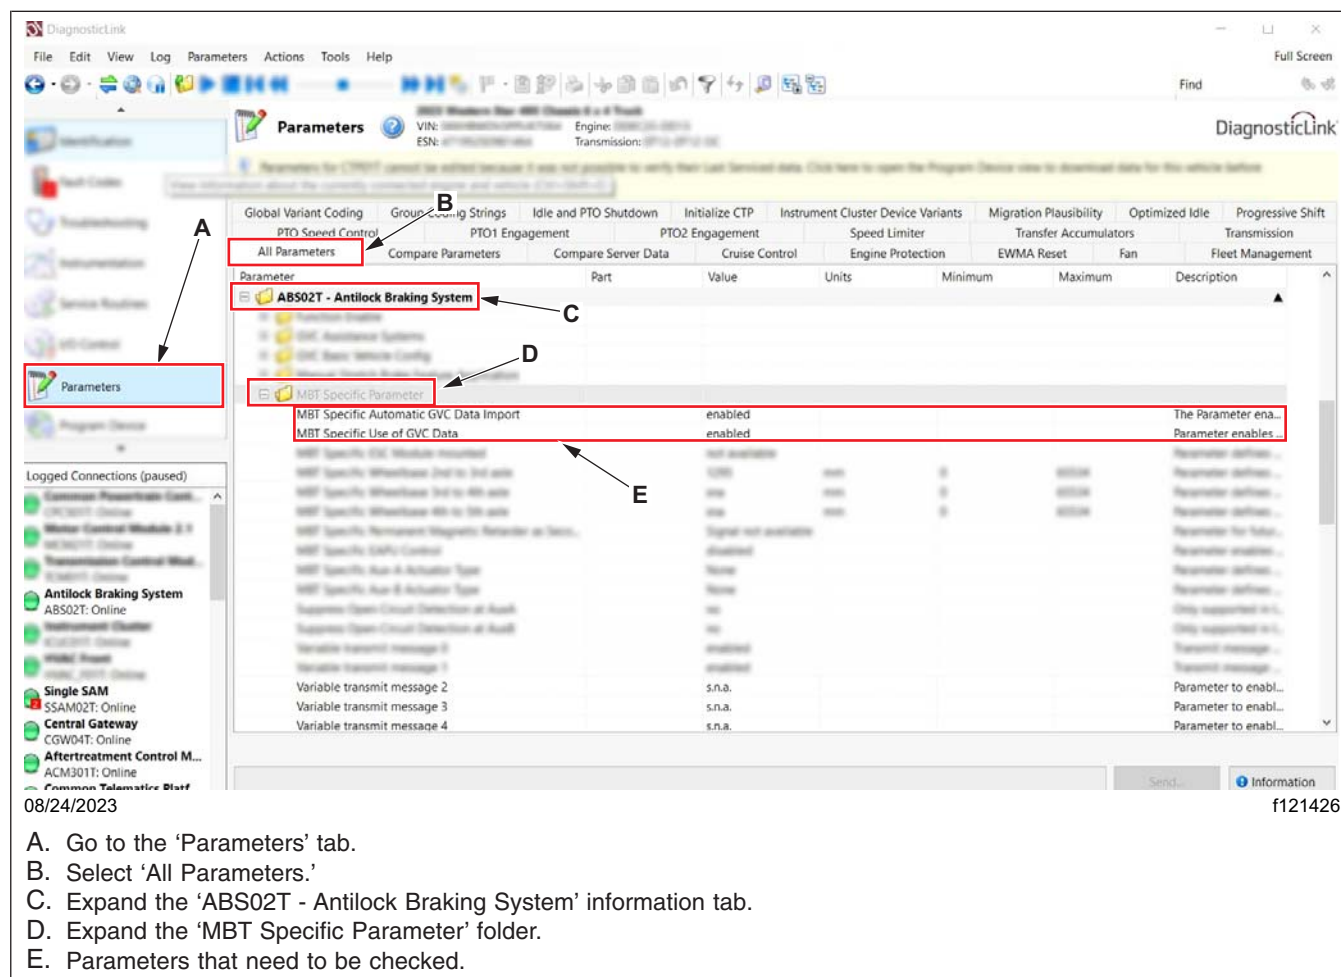

Fig. 16, Verifying the Parameter Update (Population A Only)
- 19.2 Go to the 'Parameters' tab, then select the 'All Parameters' tab. Expand the 'ABS02T – Antilock Braking System' parameter folder. See Fig. 16.
19.3 Under the 'ABS02T – Antilock Braking System' folder, find and expand the 'MBT Specific Parameter' folder. See Fig. 16.